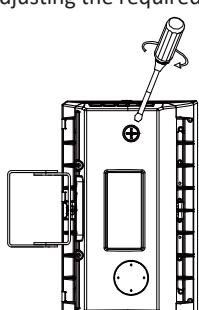

figure 18
Step 1: Open the metal plug counterclockwise with a screwdriver, then slide the switch up and down to adjust the power controller or CCT controller in your demand. (Figure 18)